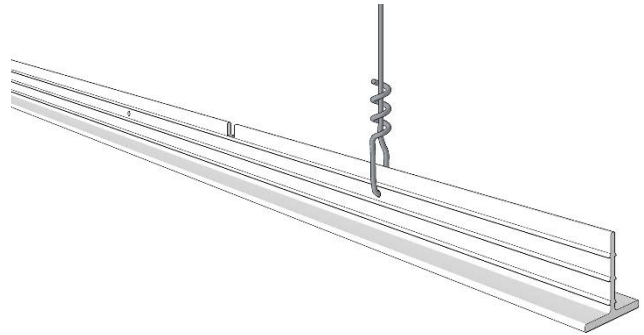

FIG. 6
3. Install corrosive resistant hanger eyes or locate suitable wire attachment structure. Install appropriate suspension wire along **Mainrail**, typically 4'-0" on center or less (depending on grid duty). Drill any additional hanging wire holes between 1st and 2nd teeth (approximately 9/16" (14.3 mm) down) of **Mainrail** and no closer than 3" (75 mm) to any other hanging holes. Secure bracing wires to ceiling suspension members and to supports with a minimum of four tight turns. FIG. 6